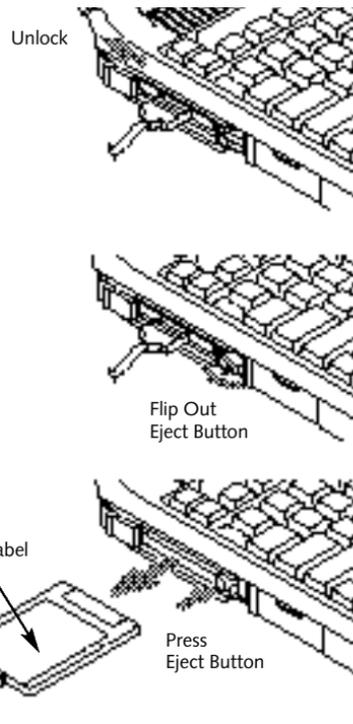

Figure 4-4 Installing and Removing a PCMCIA Card
3. **Insert the PCMCIA card in the card slot, with the product name label facing up. (Figure 4-4.)**
6. **When the card is installed, lock it in place by sliding the Lock Button to the right. (Figure 4-4.)**
4. **Press the Eject Button to eject the card. (Figure 4-4.)**